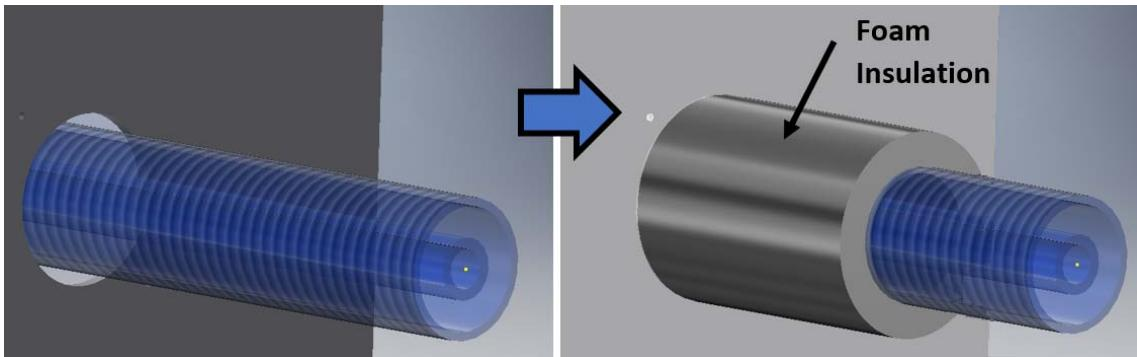

Figure D-15: Tosoh-supplied heated-line protruding out of the oven (left) and with foam insulation installed (right)
1. Feed the Tosoh heated-line through the oven wall so that it protrudes out. The Tosoh heated-line should extend at least 14 cm from the oven as shown on the left image in Figure D-15.